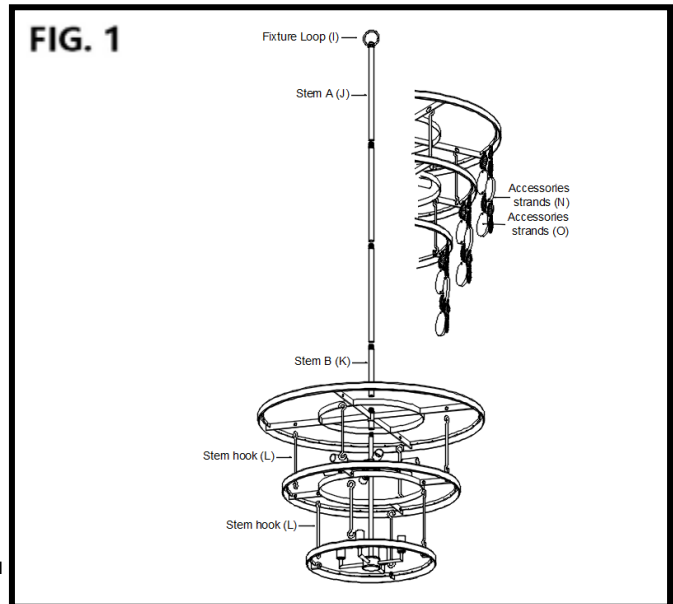

FIG. 2
HANGING THE FIXTURE (Fig.2)
15. Tuck wire connections neatly into junction box (JB) Fig 2.
16. Raise the canopy (F) over ceiling loop (E) and secure with collar ring (G)